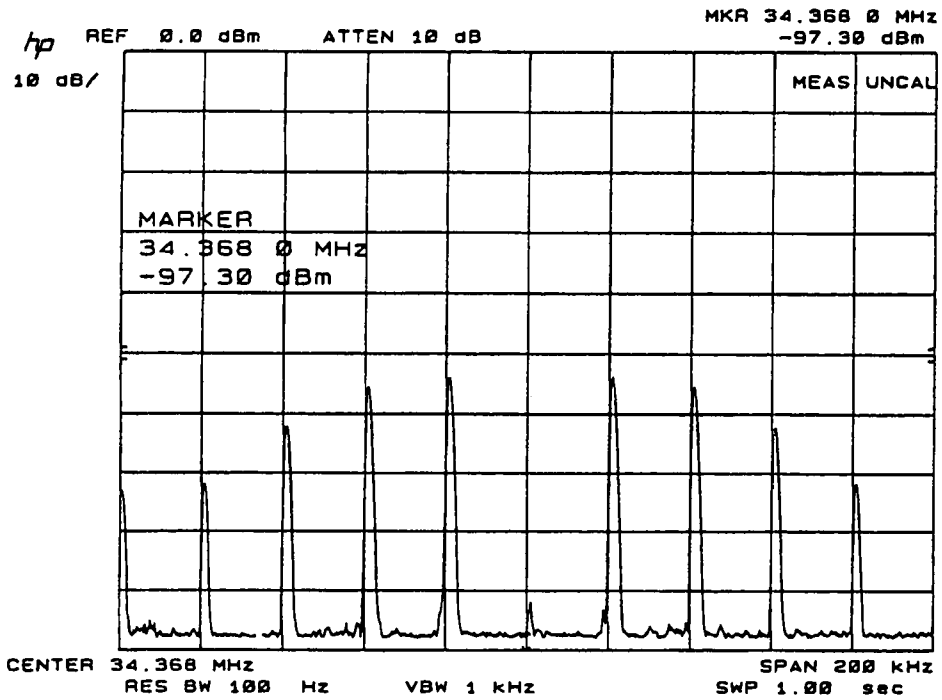

Figure 3-45. Bessel Null Example
6. Adjust the HP 37717B jitter amplitude until the first **Bessel Null** is observed on the Spectrum Analyzer i.e first dip in the carrier level (see Figure 3-45).
12. Adjust the HP 37717B jitter amplitude until the second Bessel Null is observed on the Spectrum Analyzer i.e second dip in the carrier level (see Figure 3-45).